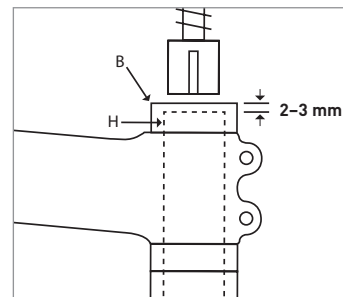

Figure 6
- Carefully measure and mark the amount of steerer tube to be removed. Remember that, when cut, the top of the steerer tube must be 2–3 mm below the top of the headset spacer/stem assembly (Fig. 6).